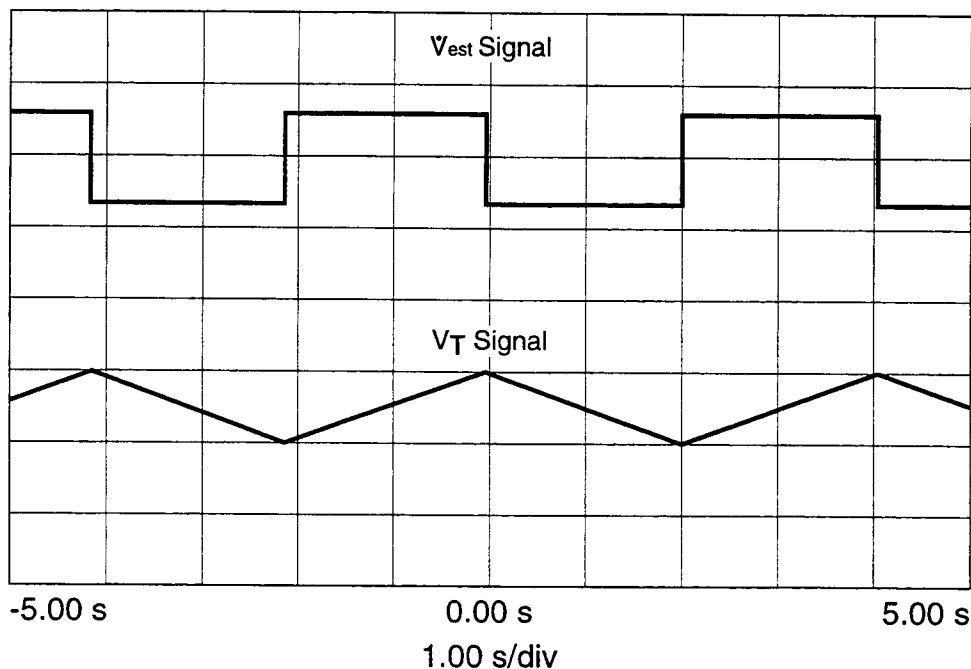

Figure 7-14. Calibration Signals.
- Step 2 When a steady state is attained in approximately 20 seconds, V_{est} should be a square wave of $+0.5V$ to $-0.5V$ amplitude, 50% duty cycle, 4 sec. period; V_T should be a triangle wave of $0.5 V_{pp}$ with 50% duty cycle and 4 sec. period. See Figure 7-14.